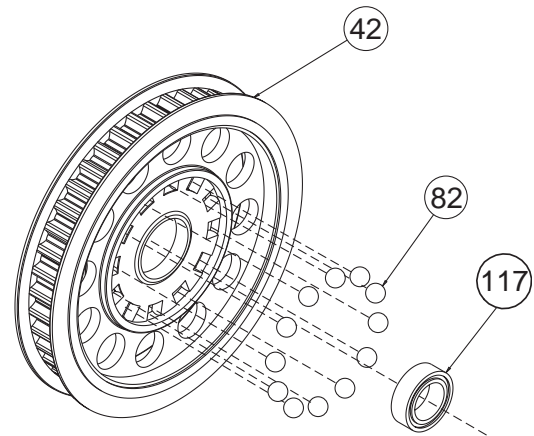

Figure 14
- ❑ 1. Insert a 5mm x 8mm Bearing (117) into the center of the 42T Diff Pulley (42).
- ❑ 2. Press a 3/32" Diff Ball (82) into each of the small holes in the Diff Pulley as indicated in Figure 14.